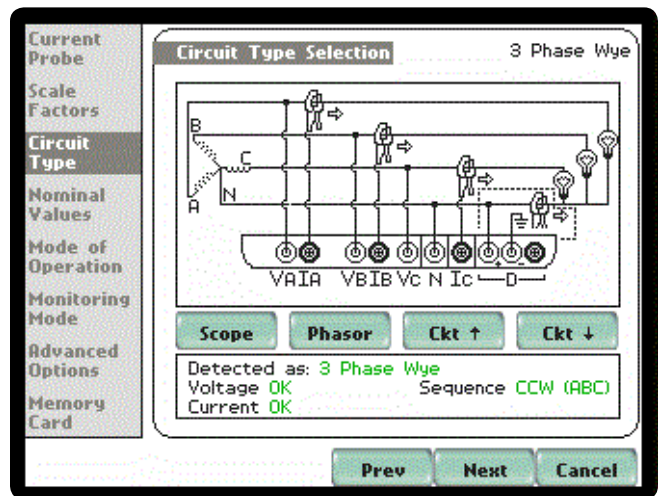
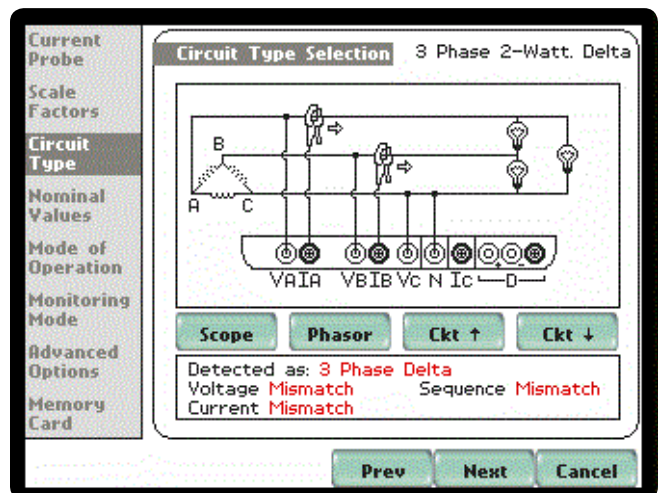

Figure 2a. Determining the connections for an energy analyzer. (3-phase WYE circuit shown)
Figure 2b. Determining the connections for an energy analyzer. (3-phase DELTA circuit shown)
Connecting the analyzer depends on the circuit type. A single-phase circuit has two wires (L, N), so according to the (N-1) approach, it requires one wattmeter. A split (2) phase has three wires (L1, L2, N) and requires two wattmeters. There are two common types of three-phase circuits, Wye and Delta with the difference being the reference used for measurements. A Wye circuit is the simplest using Neutral as the measurement reference. A Wye circuit has four wires (A, B, C, N) and requires three wattmeters. Delta, having only three wires (A, B, C) is more complex since there is no Neutral or other fixed measurement reference. Following the typical procedure, two wattmeters are required and one phase is chosen as the reference, with phase C being the most common choice, as shown in Figures 2a and 2b.
It is also able to automatically detect the circuit type to simplify settings. For example, the EP1 screen shot in Figure 2a illustrates when it is connected to a Wye circuit. The image shows the circuit type automatically detected as "3 Phase Wye" and shows the voltage and current connections are "OK." The screen capture in Figure 2b shows that the circuit type manually changed to "3 Phase 2-Watt Delta" is incorrect, which is indicated by the "Mismatch" indicators in red.